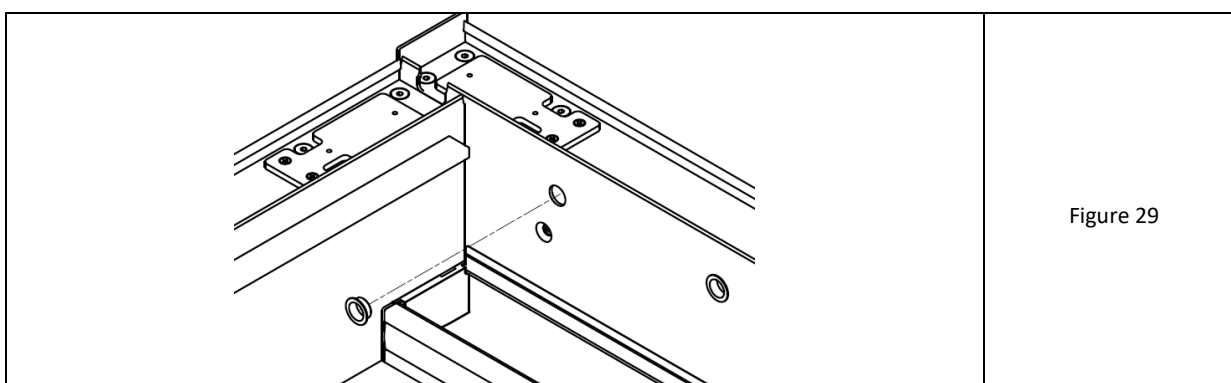

Figure 29
12. Stud the outer slip rings into the large holes for the blade's axis on the lengthwise beams (fig. 29).